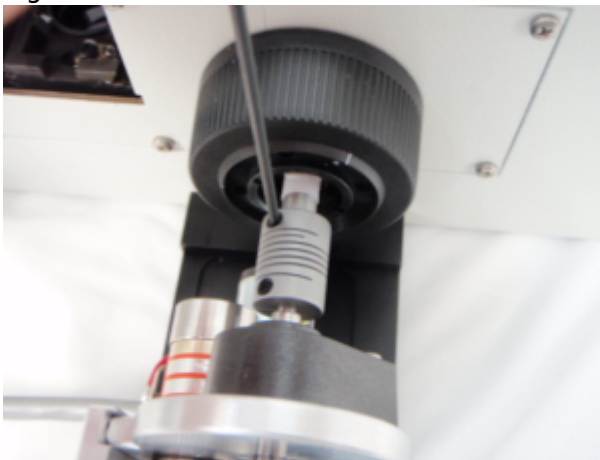

Figure 4e
e) Tighten the set screws on the flex couplers using a 2mm hex driver as shown in figure 4e. Double check and ensure that the vertical / horizontal alignment screws, and baseplate set screw are tight.